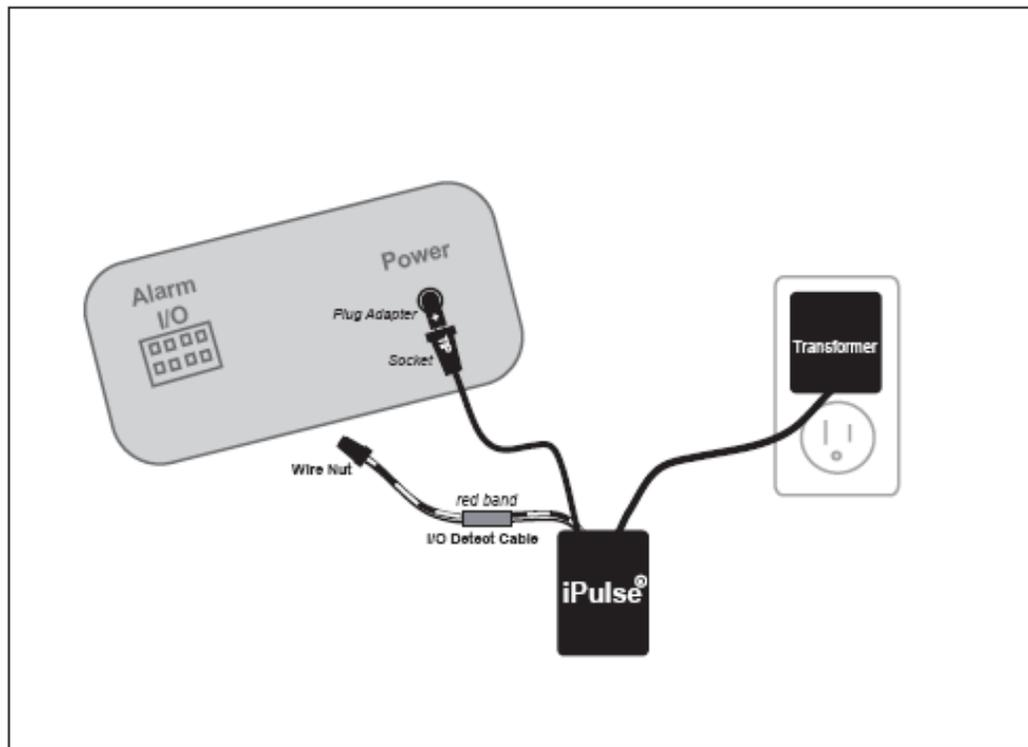

Figure 2: iPulse® IP1-STD – Timed Mode Installation
The Timed Reset Mode connections are shown in Figure 2.
13. Connect the power output pin from the iPulse to the Power input on your device. Use the supplied plug adapter that matches the power input to your device. Make sure plug adapter's positive (“+”) marking is aligned with sockets “TIP” marking (see figure 2 above)